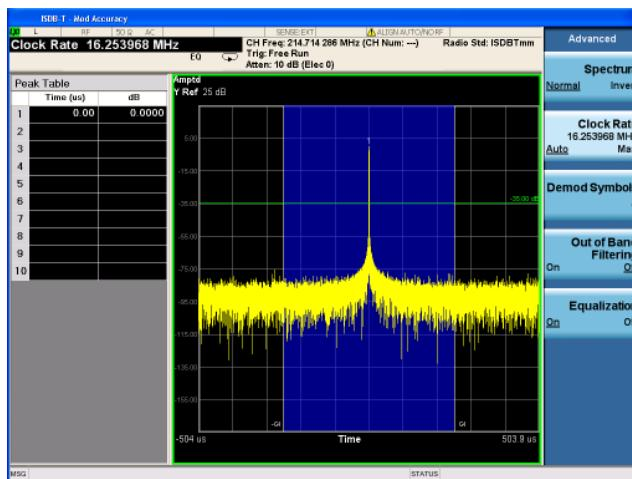

Figure 23. Channel impulse response view for ISDB-Tmm signals
View the channel impulse response results (Figure 23)	[View/Display] {Channel Impulse Response}
- **Channel impulse response** view (Figure 23): This two-window view displays the state of the channel in time domain which the signal has gone through.